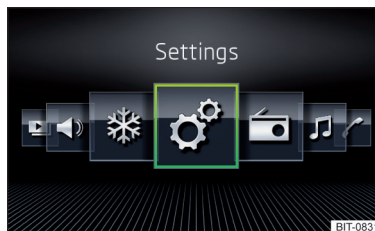

Fig. 173
- ▶ Select the **Grid** » Fig. 172 or **Horizont. Display** » Fig. 173 option.